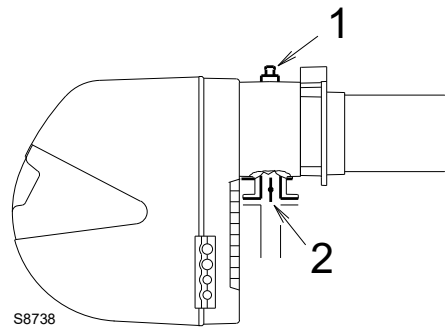

Fig. 23
Gas pressure measured at the test point 1)(Fig. 23), with:
Pressure loss at gas butterfly valve 2)(Fig. 23) with maximum opening: 90°.
- Subtract the combustion chamber pressure from the gas pressure measured at test point 1)(Fig. 23).
To know the required gas pressure at test point 1)(Fig. 23), set the maximum output required from the burner operation, then:
- Read, on the right (column 1) the socket pressure 1)(Fig. 23).
gas pressure at test point 1)(Fig. 23).